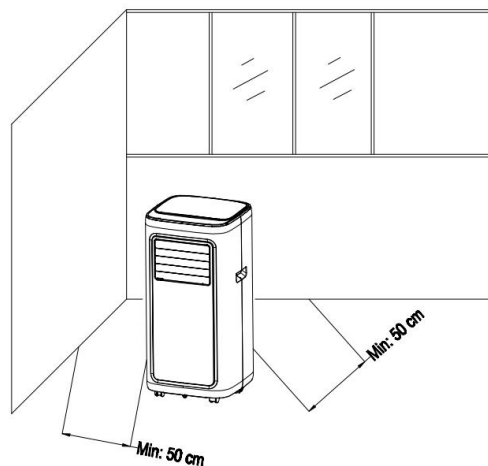

Figure 4
1) Move the machine with installed heat pipe and fittings before the window, and the distance between the body and walls or other objects shall be least 50 cm (as shown in Fig.4).